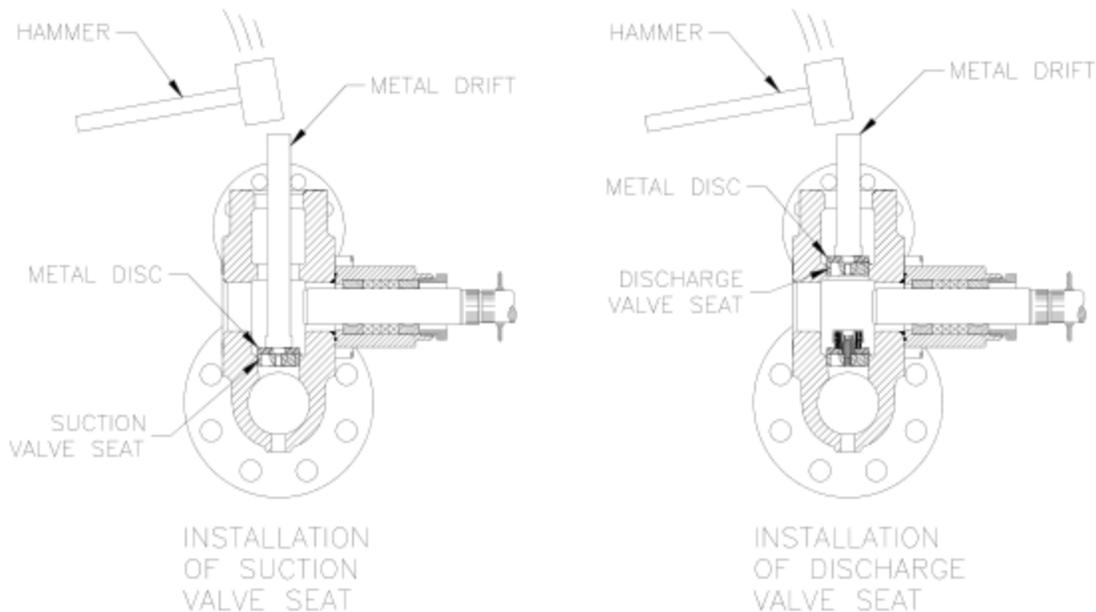

Figure 12
- d. Using a metal plate or old worn valve body, drive the seat into place with several sharp blows from a hammer and bar. See Figure 12.